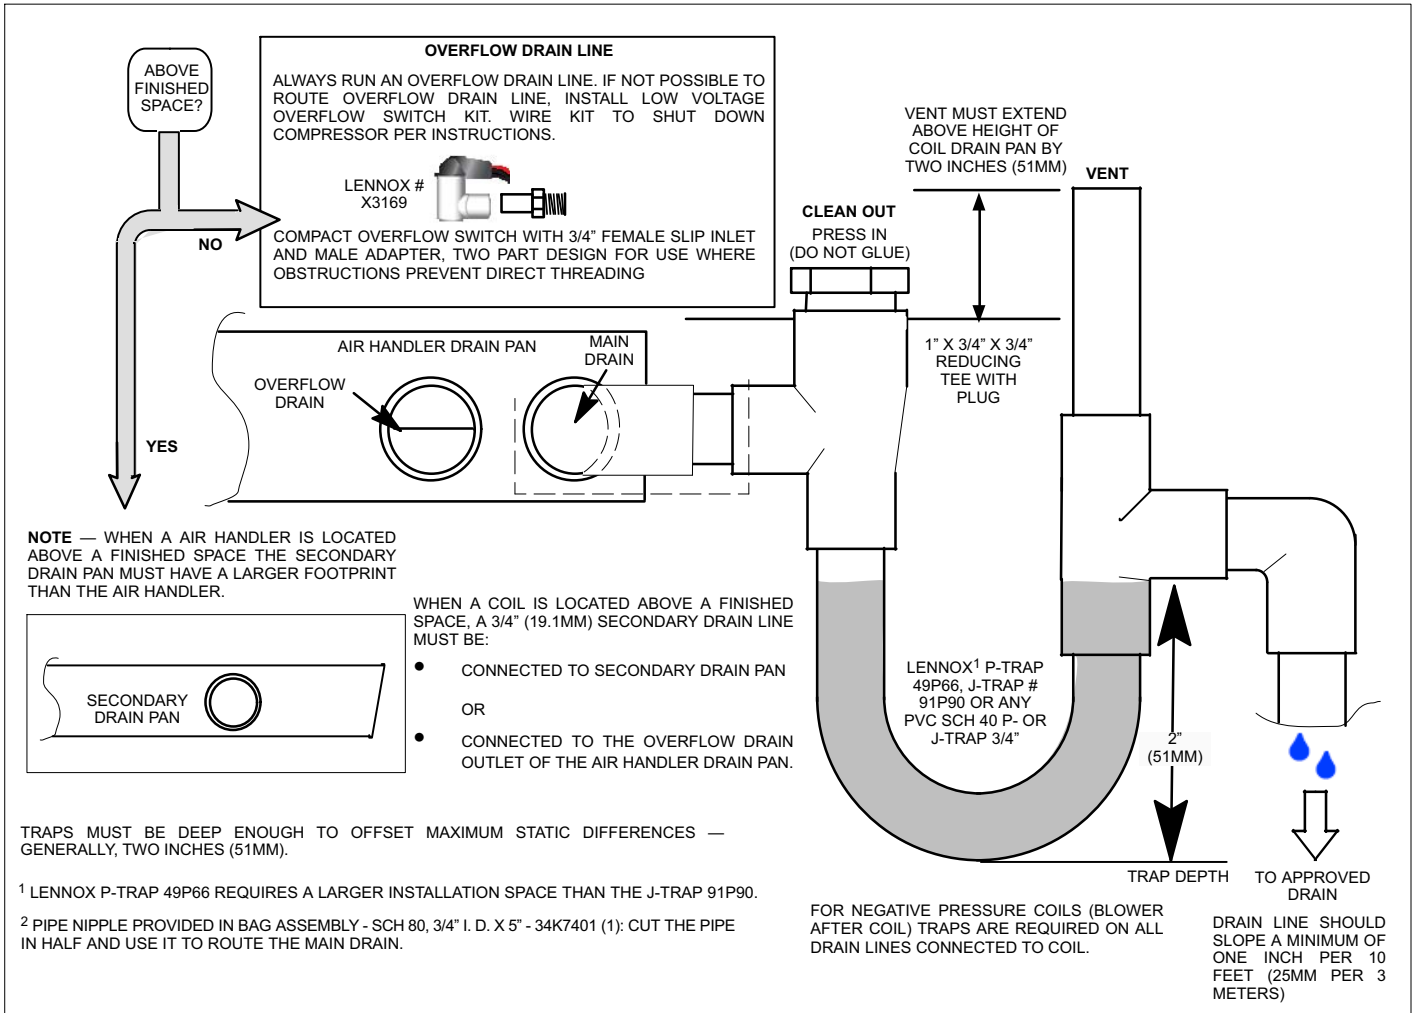

Figure 24. Typical Main and Overflow Drain
7. Install a 2" trap in the primary drain lines as close to the unit as practical (see figure 24). Make sure the top of the trap is below the connection to the drain pan to allow complete drainage of the pan.
NOTE — Horizontal runs must have an anti-siphon air vent (standpipe) installed ahead of the horizontal run (See figure 24). An extremely long horizontal run may require an oversized drain line to eliminate air trapping.